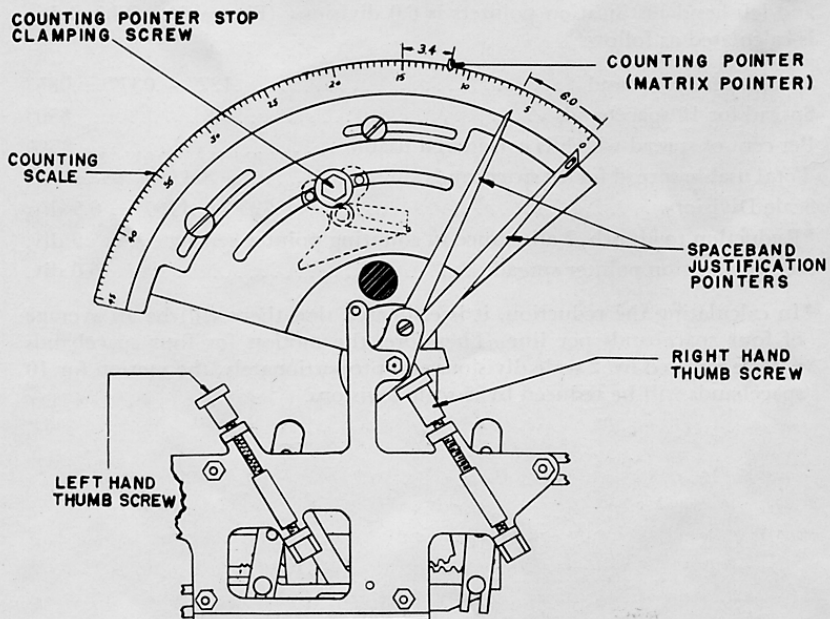

FIGURE 51. Counting Pointer Scale and Mechanism.
1. Move the counting pointer by hand to a convenient even scale graduation, such as 15. (See Figure 51.)
3. Open the hinged door in front of the adjustable spaceband mechanism. Position the right-hand spaceband justification pointer by means of the right-hand thumb screw so that its total motion is 3.4 scale divisions (Figure 51). This is indicated by the change in counting pointer location from 15 to 11.6 on the indicator scale. Return the pointers to their start position by depressing the RET (Return) key. Recheck the setting, and refine if necessary.
AFTER THE RIGHT-HAND spaceband justification pointer has been set and checked and the pointers have been spread by depressing the space bar 10 times, adjust the position of the left-hand spaceband justification pointer by means of the left-hand thumb screw, so that the spread between the right and left-hand justification pointers is 6.0 divisions (Figure 51). This value is calculated as follows:
On the Teletypesetter Perforator, line justification is achieved by means of the Counting Scale with its three pointers — the Counting Pointer, the Left-Hand Spaceband Justification Pointer, and the Right-Hand Spaceband Justification Pointer (See Figure 51).